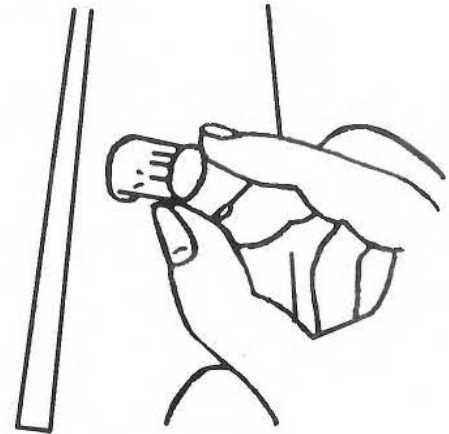

Figure 3
1. Stitch length adjusting knob (to adjust the stitch length). Figure 3